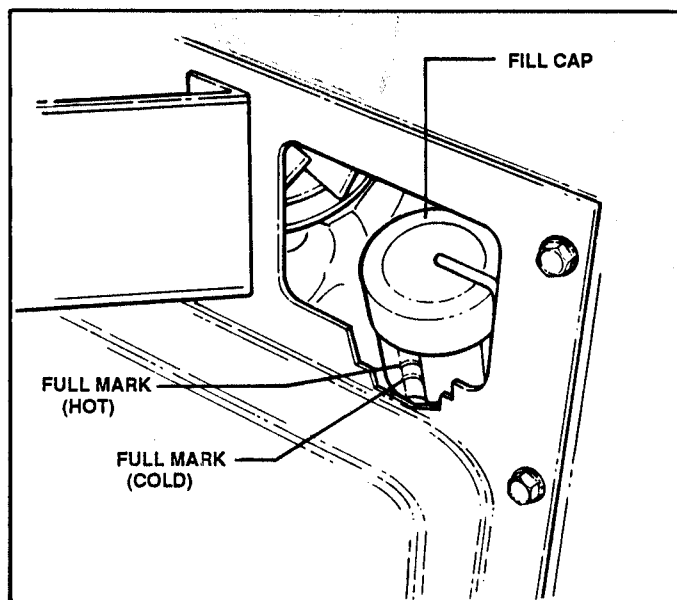

FIGURE 14
- **TRANSAXLE:** Check oil level in transaxle. See Figure 14.
- **CLEAN** exterior of transaxle and check fluid level in oil reservoir as shown in Figure 14. Add oil as required.